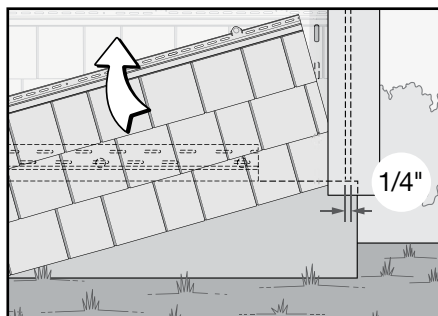

figure 2
2. Starting on the right side of the wall, hook the bottom locking leg of the panel into the starter strip and slide panel into the cornerpost or receiving channel (figure 2). Leave 1/4" space between the panel and the corner for expansion. If you are planning to install the Mitered Cornerpost, space the panel 2-3/4" from the corner.